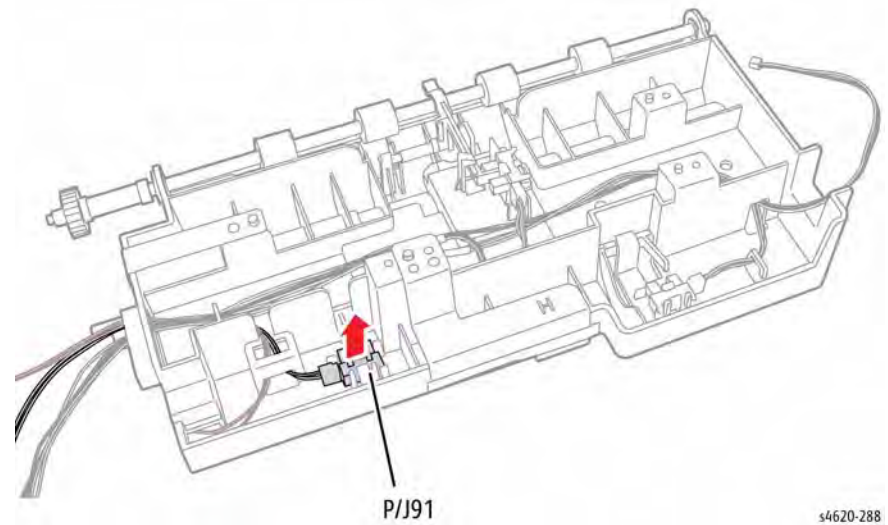

Figure 1 Remove the HCF Stack Height Sensor
8. Disconnect P/J91 and release 2 hooks that secure the sensor to the HCF Feed Assembly, Figure 1.